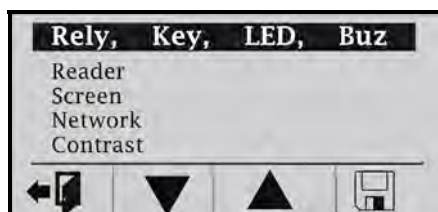

Figure 52: MTX-15 Main Diagnostic Screen
- Step 2.** Press the **enter**  key when the Memory Bank test first appears. After the terminal initializes, the Diagnostic screen will appear with the Relay, Keypad, LED and Buzzer test highlighted as illustrated in **Figure 52**.